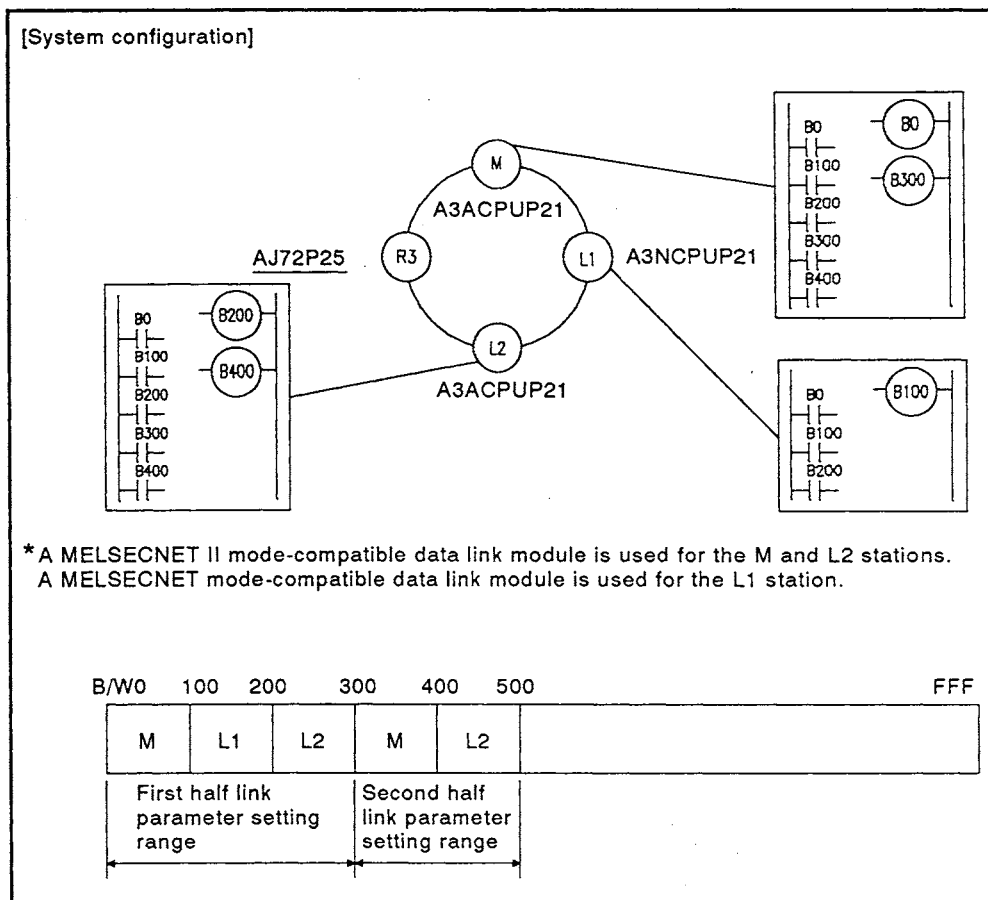

Fig 5.10 System using MELSECNET II composite mode
<p>A MELSECNET mode-compatible local station can only read the range of link relays (B) and link registers (W) assigned to the first half link parameter. Devices assigned to the second half link parameter cannot be read.</p> <p>L1 station in Fig 5.10, for example, cannot read the devices in the range of B/W300 to 4FF because it is used for a MELSECNET mode-compatible data link module.</p> <p>MELSECNET II mode-compatible master stations and local stations can read the range assigned to both the first and second half link parameters.</p>